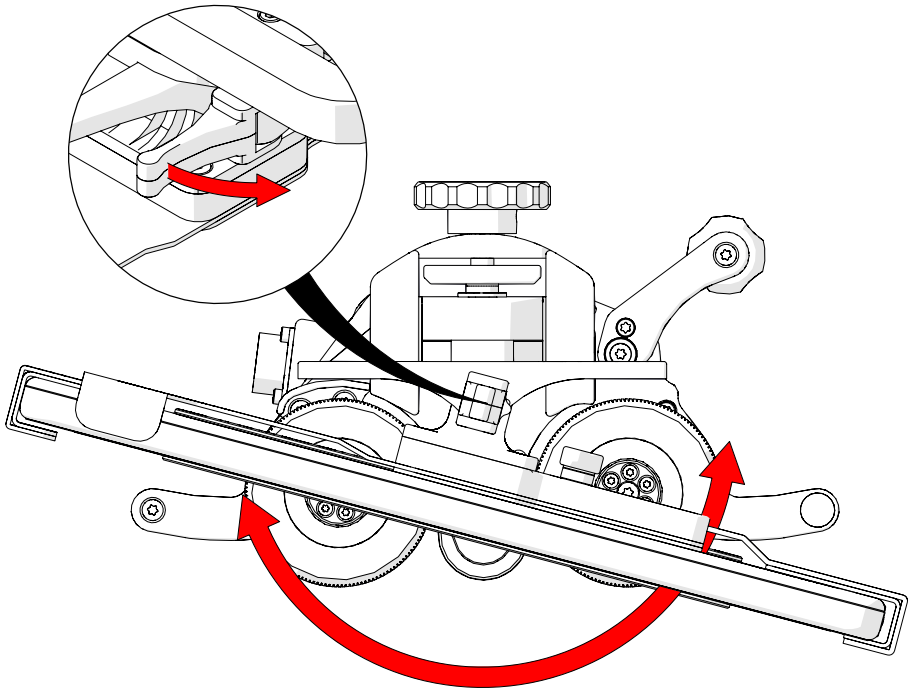

Fig. 40 - Loosen lever and pivot
1. Loosen the lever to pivot the detector as required. Tighten the lever to lock the detector in place (*Fig. 40*).